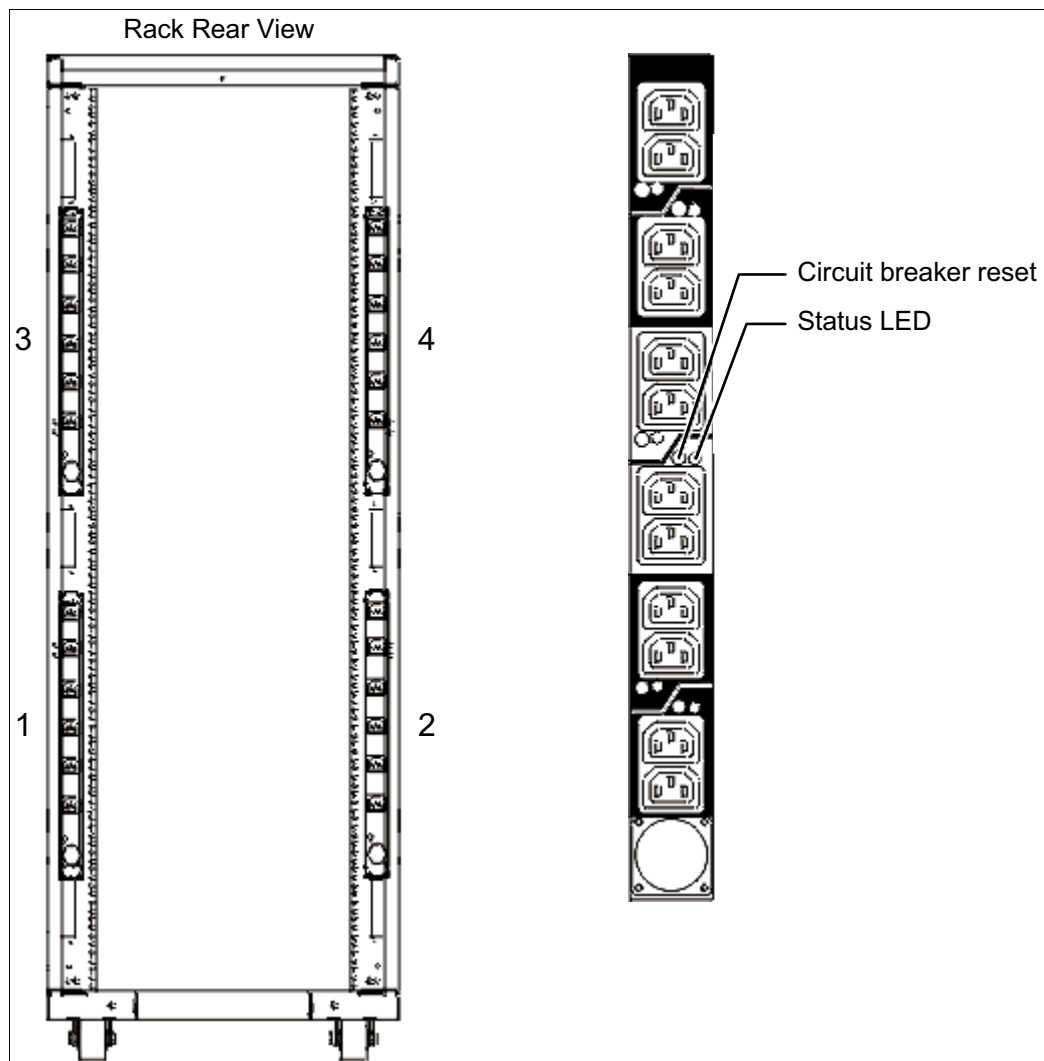

Figure 1-8 PDU placement and PDU view
- ▶ Up to four power distribution units (PDUs) can be mounted in the PDU bays (see Figure 1-8 on page 22), but others can fit inside the rack. For more information, see 1.10.7, “AC power distribution unit and rack content” on page 22.
Four PDUs can be mounted vertically in the back of the T00 and T42 racks. Figure 1-8 shows the placement of the four vertically mounted PDUs. In the rear of the rack, two additional PDUs can be installed horizontally in the T00 rack and three in the T42 rack. The four vertical mounting locations are filled first in the T00 and T42 racks. Mounting PDUs horizontally consumes 1U per PDU and reduces the space available for other racked components. When mounting PDUs horizontally, the best approach is to use fillers in the EIA units that are occupied by these PDUs to facilitate the correct airflow and ventilation in the rack.